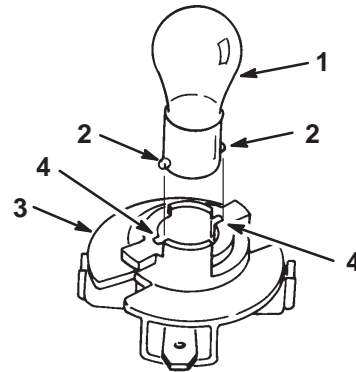

**Figure 34**
3. Rotate the bulb holder 1/4 turn counterclockwise and remove it from the reflector (Fig. 34).
2. The bulb holder has two tabs (Fig. 34). Align the tabs with the slots in the reflector, insert the bulb holder into the reflector and rotate it 1/4 turn clockwise until it stops.